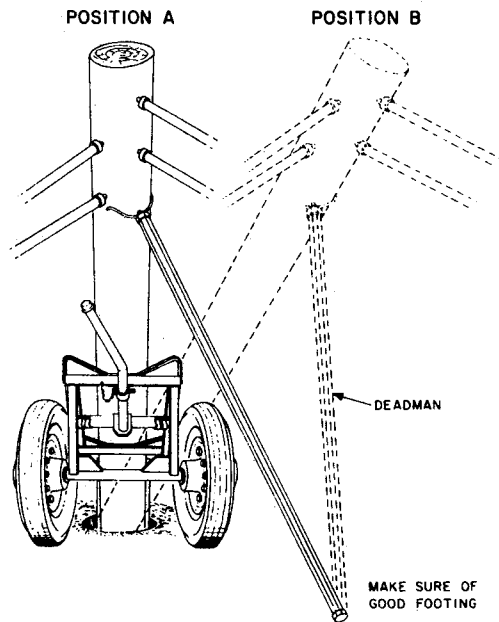

Fig. 14—Positioning Heavy Pole with Pole Dolly
- (1) Move pole into position with butt against butting board, preferably using pole dolly. See Fig. 14. A short trench should be dug to keep the pole butt going into the hole. It should be wide enough to permit pole to be rocked sideways and still stay in trench.